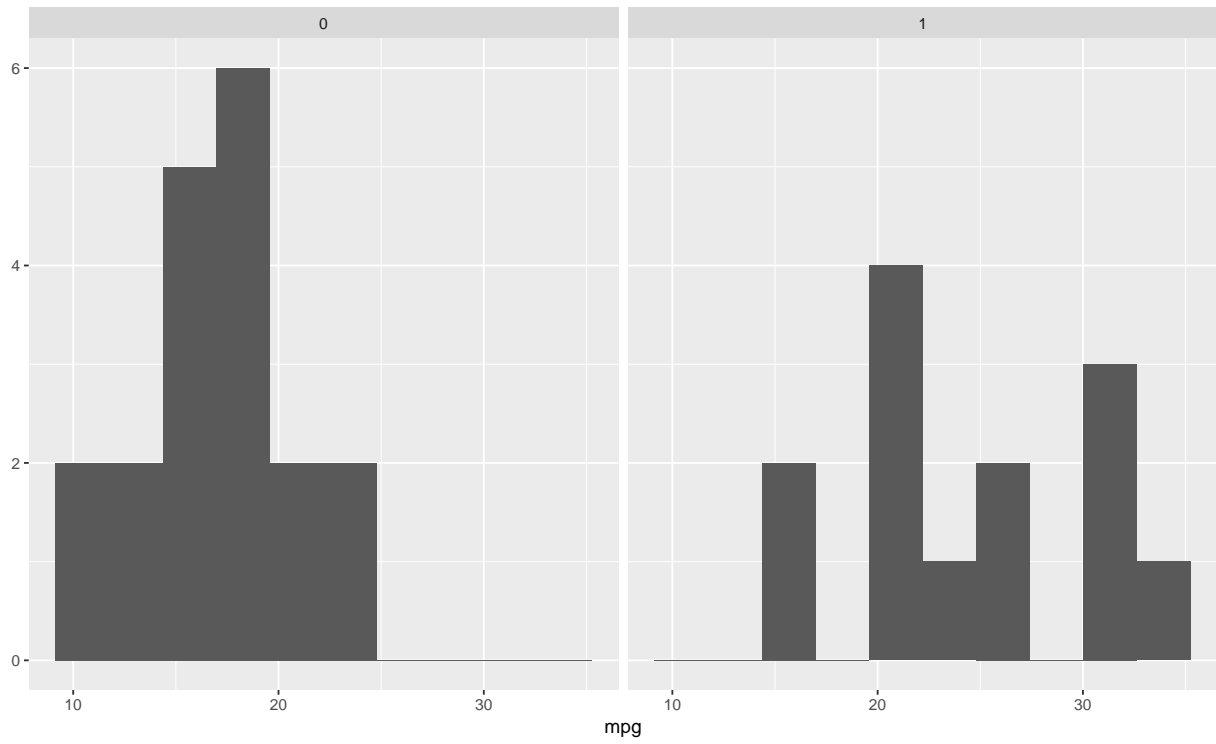

Figure 1: Histograms of mpg for automatic transmission (left) and manual transmission (right)
In the mtcars data we are interested in two variables “mpg” - Miles/(US) gallon and “am” - Transmission (0 = automatic, 1 = manual). First of all lets check if there seems to be any difference between mpg the two transmission modes. In Figure 1 I compare histograms for the manual and automatic transmission mode. So we can see that the mpg is higher for manual transmission  $24.4 \pm 6.2$  than for the automatic  $17.1 \pm 3.8$ . This would indicate that manual transmission is better for the mpg than automatic.